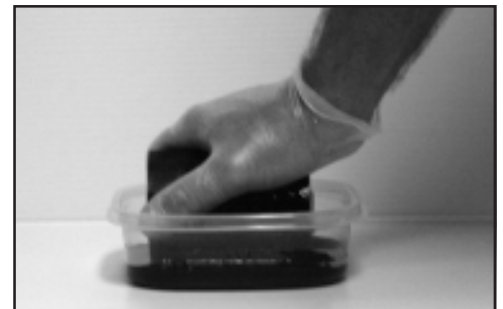

FIGURE 31
- 2 - Carefully place the roll into the container as shown in fig 31. Hold the roller and firmly press down on the foam side of the ink roll and then release the pressure. Rotate the roll and repeat this process several times pressing on different areas. This will force the air out of the roll and the voids will be filled with ink.**